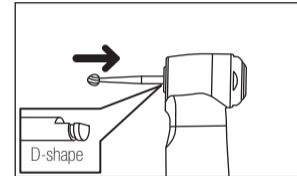

Fig. 1
- 2) Insert and lightly turn the bur until it engages with the latch mechanism. (Fig. 1)